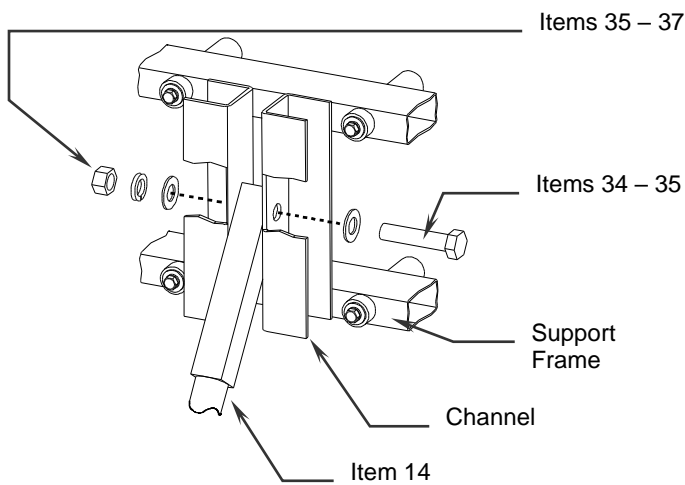

Figure 21: Elevation Upper Connection Assembly
28. Locate the elevation rod (item 14) and secure between the channels on the support frame in the lower connection holes with 1" hardware (items 34, 35, 36, and 37). See Figure 21, Elevation Upper Connection Assembly.